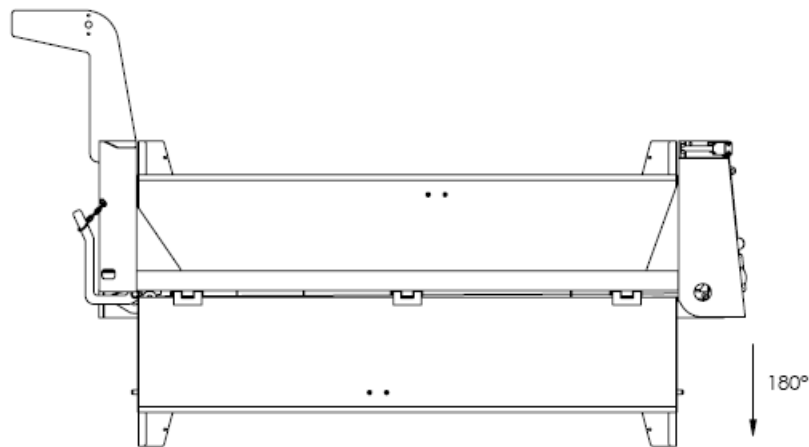

FIGURE 13
2. Rotate the top of the side door down as shown in Figure 13 and release the side door handle. The side door will rotate 180° from the closed position.